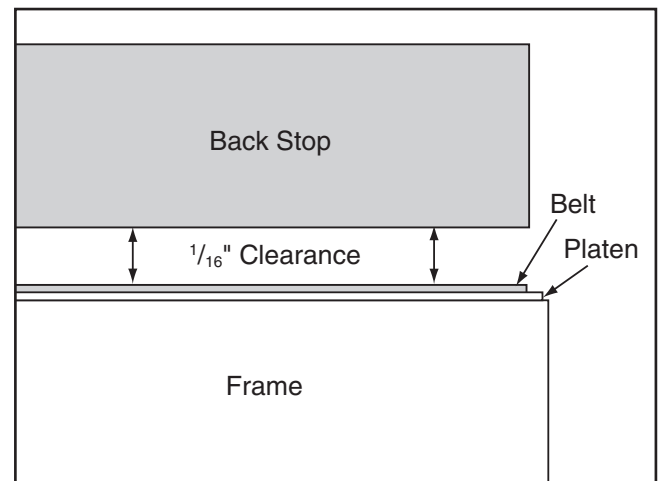

Figure 74. Correct clearance between back stop and belt.
8. Install the back stop and adjust it so it is no more than $\frac{1}{16}$ " above the belt (see **Figure 74**).